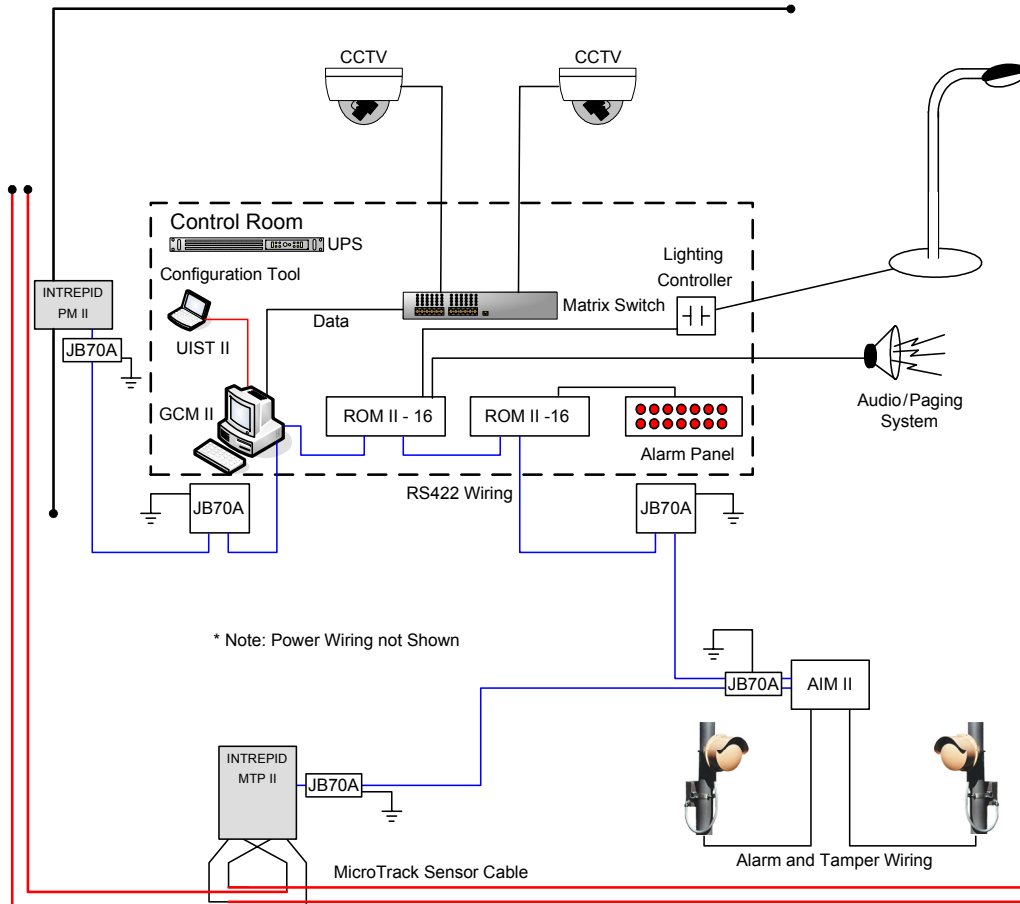

Figure 6 – Typical GCM II Configuration
Figure 6 shows a typical configuration using a GCM II, ROM II-16's (2), AIM II, MTP II, PM II and a Microwave Link. Only two (2) of the four (4) ports of the GCM II are being used. The Control Room has a matrix switcher, lighting control system, paging system and an alarm panel. A laptop computer is shown as the configuration/programming tool to set up the sensors in the system. The JB70A Surge/Lightning protection module is shown on the outside of the control room and at the sensors. The GCM II, ROM II-16, AIM II and MTP II are connected together with the RS422 communications line from one (1) port of the GCM II. The other port of the GCM II is connected to the PM II. The Microwave Link alarm relay and tamper switches are wired into the AIM II. The two (2) ROM II -16's are programmed so their relay outputs trigger inputs on the alarm panel, lighting control system, and pager system. The CCTV matrix is given alarm information from the GCM II's Hexadecimal RS232 output port. A UPS is also shown and is recommended for backup of the INTREPID™ products.